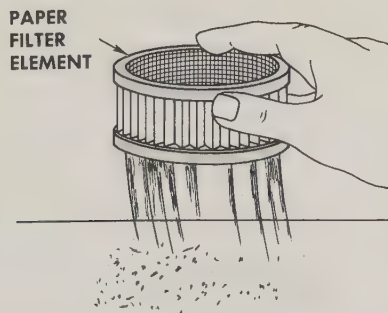

FIG. 18-5 Tapping the paper filter to knock dirt loose.
**Dry-Element Air Cleaner** Remove the filter-element cover if it is a separate part. Some air cleaners of this type are made in one piece without a separate cover. Cover the carburetor intake with a cloth or plastic film. The paper filter element can be cleaned by tapping it lightly on a flat surface, as shown in Fig. 18-5. Do not wash a dry filter, unless the manufacturer's instructions specify doing so. Wetting the paper will clog the paper pores and ruin the element. If the dust does not drop off easily, or if the element is damaged, throw it out and install a new element. Even one pin hole in the paper element can let in enough dust to wear out the engine prematurely.